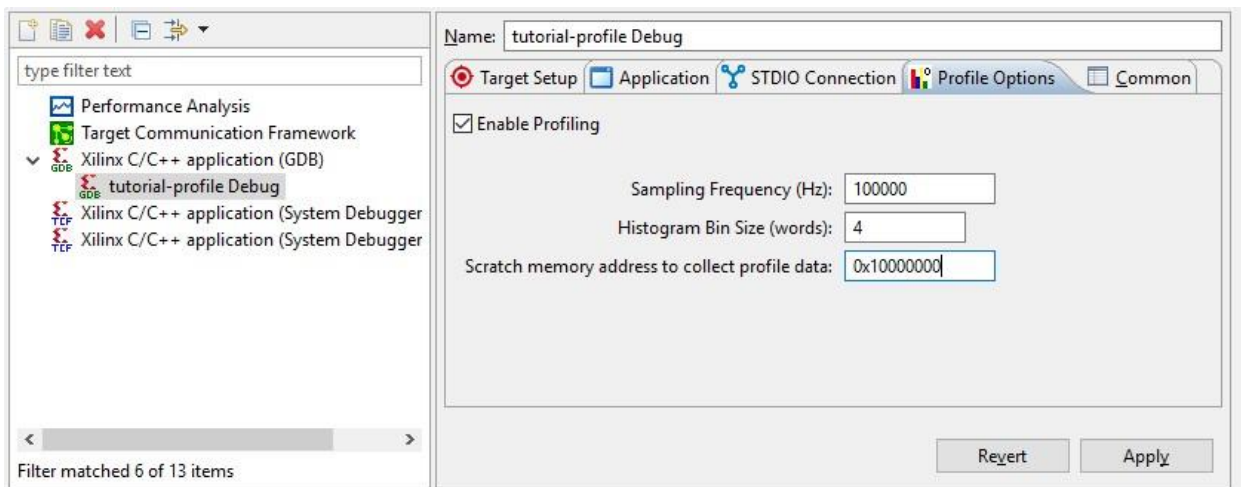

Figure 41: Profiling options
7. Click on the **Enable Profiling** check-box. Enter **100000** (100 kHz) in the Sampling Frequency field, enter **0x10000000** in the scratch memory address field, and click **Apply**, as in Figure 41 or in Figure [b].